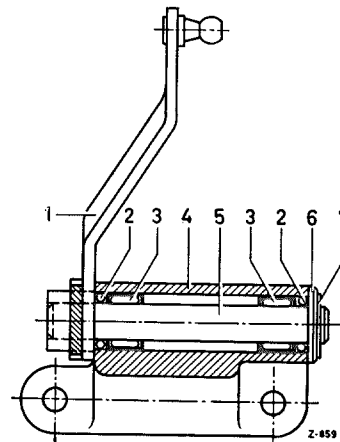

Fig. 01-4/13
The "O" rings (2) and the needle bearings (3) can be replaced individually (Fig. 01-4/13).